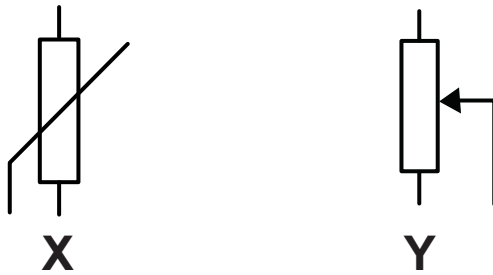

Fig. 8
- (b) (i)** Name the two electronic components represented by their symbols, labelled **X** and **Y** in **Fig. 8** below.